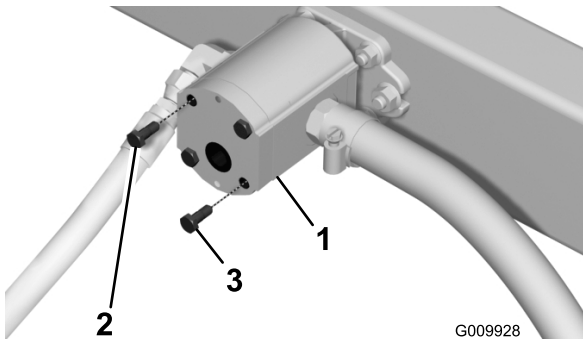

Figure 5
3. Remove the top, left screw and bottom, right screw from the existing pump plate (Figure 5).